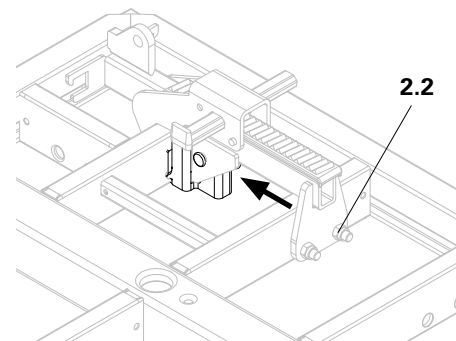

Fig. A4.04
2. Attach the adapter to the connecting bore holes of the panel from below and mount the Connector for Platform MXP to the panel struts using bolts and nuts (2.2), see above. (Fig. A4.04)